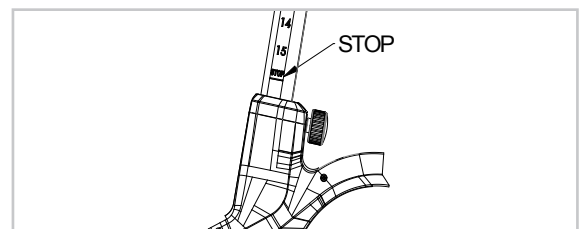

FIGURE 8
**NOTE:** When adjusting the upper and lower positions of the handle and the seat, their highest position should not exceed the horizontal "STOP" line as shown in Figure 8.